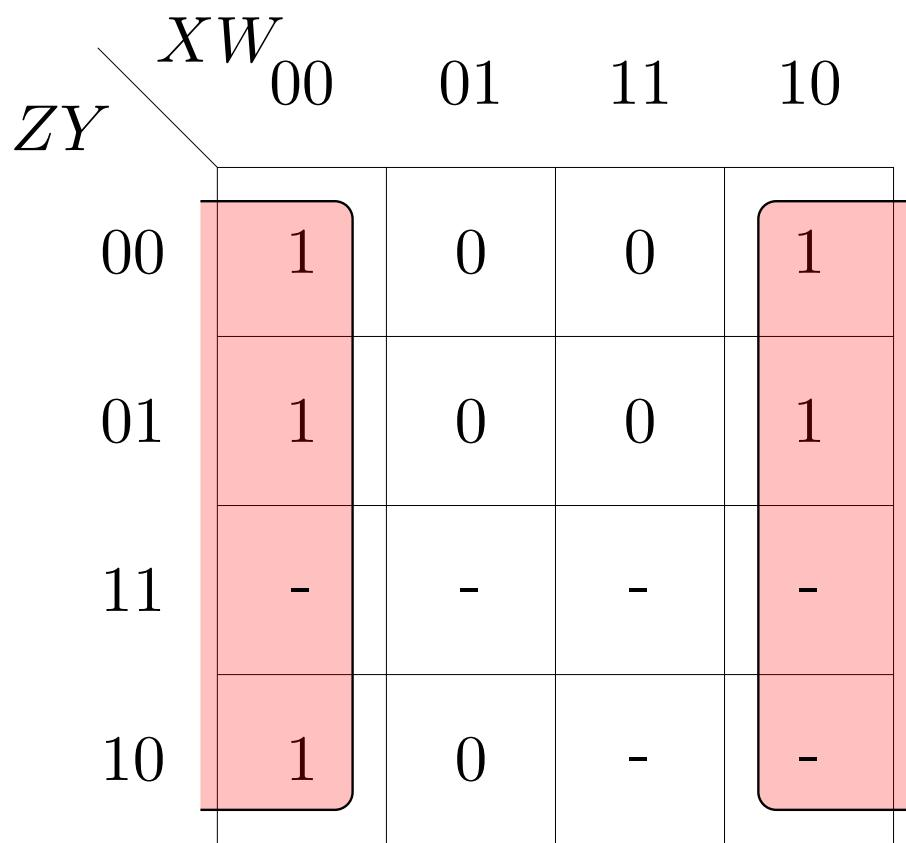

Figure 4.5: K-map for  $A$  with don't cares
2. The revised K-map for A is available in Fig 4.5. Show that